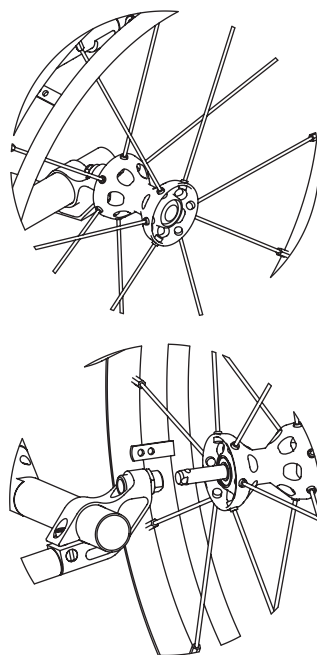

Figure 19.1 Quick release wheel attachment.
- 3 Keep the button depressed as the axle is slid through the axle receiver on the frame. (See Figure 19.1)